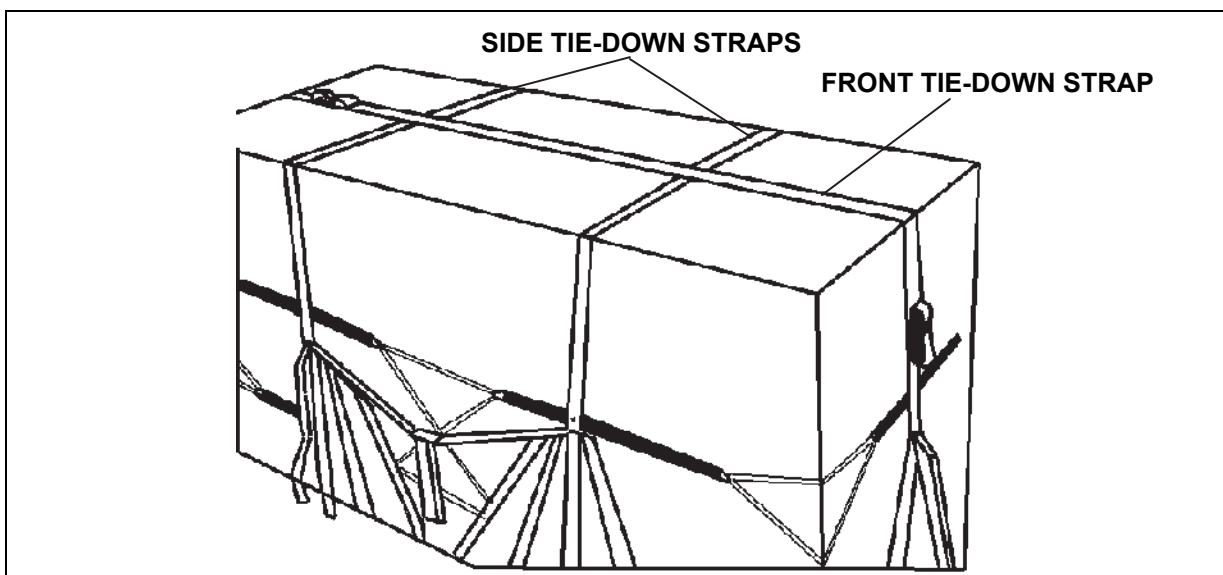

Figure 8-14. Front, Rear, and Side Tie-down Straps Installed
- Run the side tie-down straps through the friction adapters and apply tension to the straps. If necessary, attach a 36- or 60-inch nylon webbing strap to either the front or rear tie-down strap and route the running end through the friction adapter on the opposite end. Apply tension and fold and secure the excess strap with 1/4-inch, Type I cotton webbing (figure 8-14).
- Run the side tie-down straps through the friction adapters and apply tension to the straps. If necessary, attach a 60-inch nylon webbing strap to either the front or rear tie-down strap and route the running end through the friction adapter on the opposite end. Apply tension and fold and secure the excess strap with 1/4-inch, Type I cotton webbing (figure 8-14).